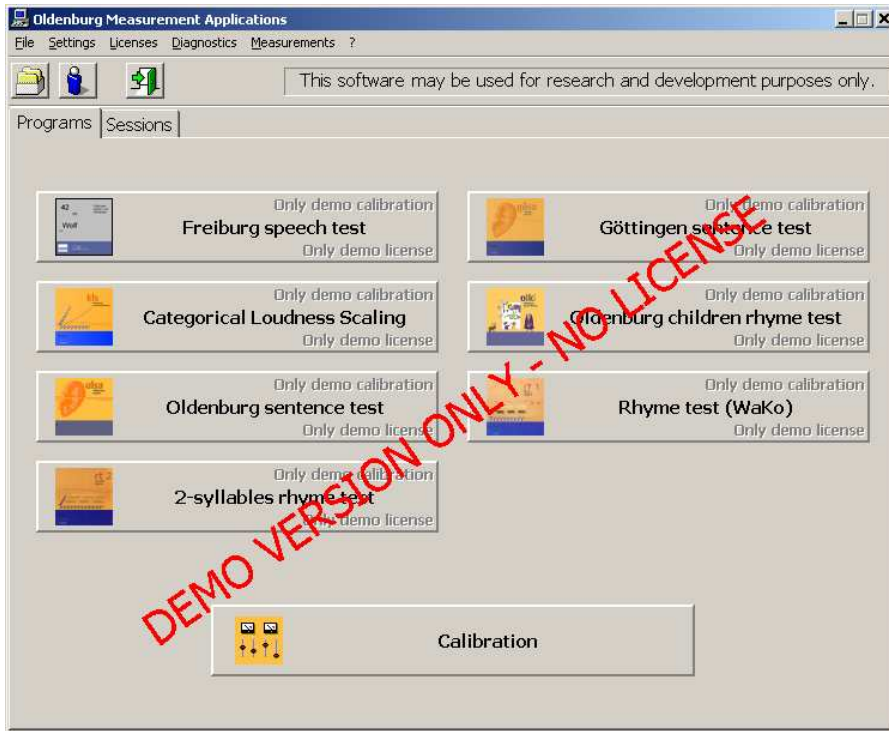

Figure 3
**Attention:** Usually you have to install valid licenses after installing the basic software or a measurement application. The 'Oldenburg Measurement Applications' are switched into a restricted demo mode until a valid license is installed. If a mandatory license is only missing for a particular measurement application this is shown on the button of the measurement. Depending on the particular measurement this application may be not executable or executable with some demo restrictions. The start dialog will be similar to Figure 3:
1. Without a basic license the complete software package is running in demo mode. This is clearly shown in the start dialog (Figure 3).